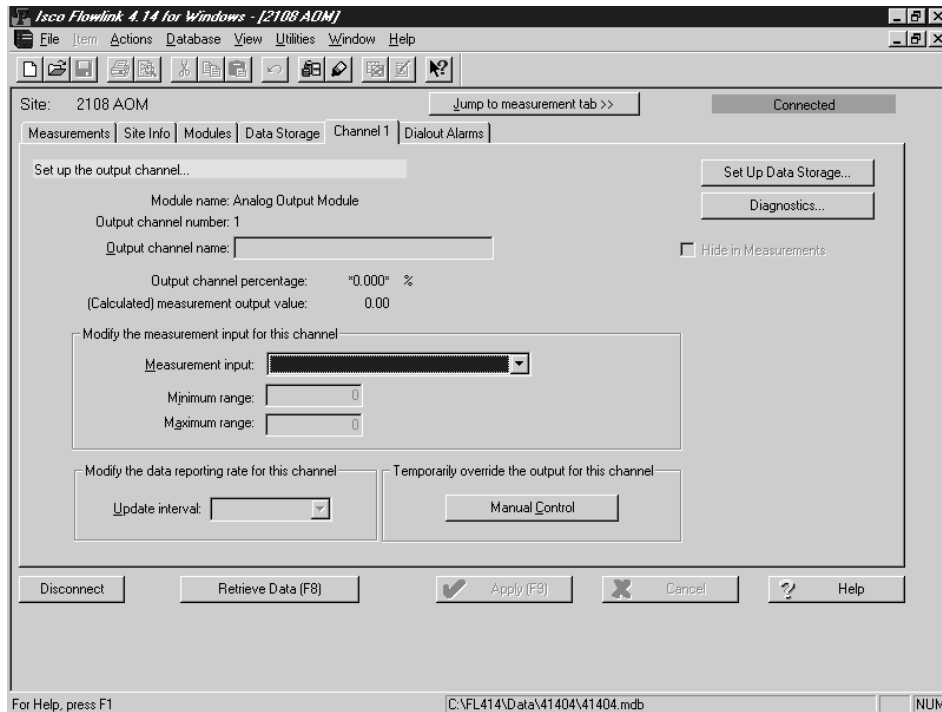

Figure 2-9 Channel 1 setup screen in flowlink
2. From the Measurements tab, select Channel 1. The screen shown in Figure 2-9 will be displayed.